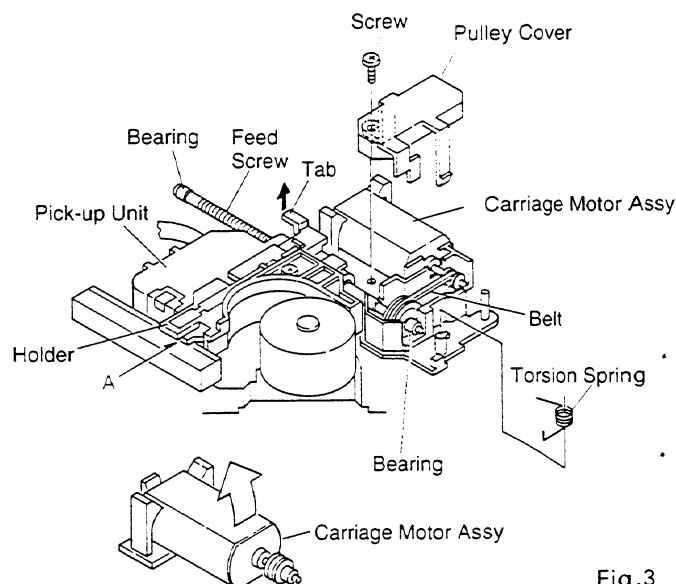

Fig.3
3. Remove the Torsion Spring which is pressed against the leading edge of the Feed Screw.(Fig.3)
4. Remove the Screw and Pulley Cover.(Fig.3)
5. Remove the Belt and the Pick-up Unit with the Feed Screw still attached.(Fig.3)
6. Lift the Tabs of the rack section of the Holder and remove the Feed Screw. While doing so, be careful not to lose the Bearings on the ends of the Feed Screw.(Fig.3)
● Removing the Carriage Motor Assy (Fig.3)